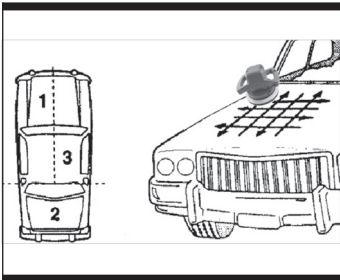

Fig 5
4.TO USE THE CAR POLISHER (see Fig5)